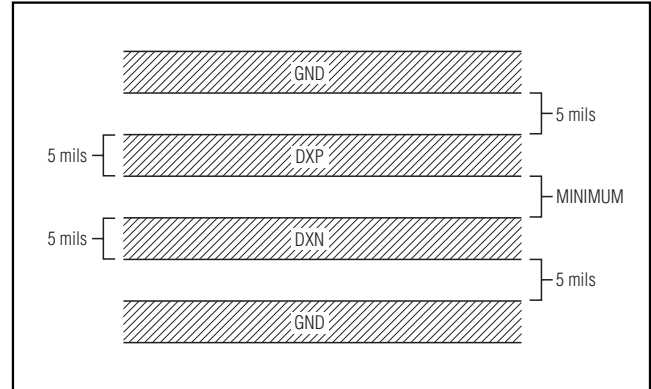

Figure 5. Recommended Minimum DXP-DXN PC Board Traces.
- 3) Route the DXP and DXN traces in parallel and in close proximity to each other. Each parallel pair of traces should go to a remote diode. Route these traces away from any higher voltage traces, such as +12VDC. Leakage currents from PC board contamination must be dealt with carefully since a 20M Ω leakage path from DXP to ground causes about +1°C error. If high-voltage traces are unavoidable, connect guard traces to GND on either side of the DXP-DXN traces (Figure 5).